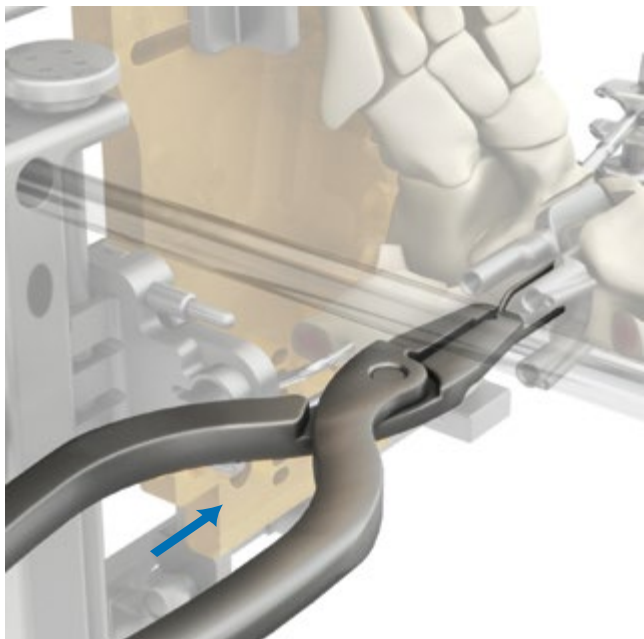

Fig. 68
- Use the Spreader Pin Inserter to place the smallest Spreader Pin between the two Drill Guides (Fig. 68).